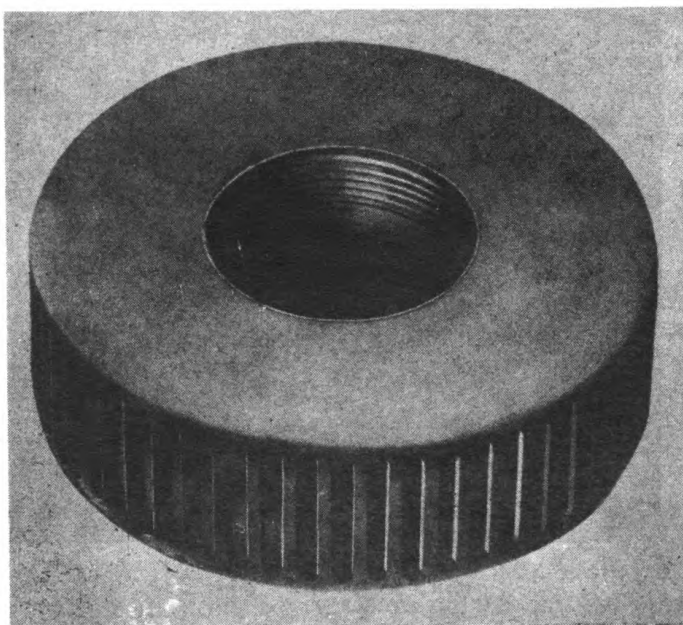

Figure 5. Suction strainer.
a. SET-UP OF PUMP. Set the pump as near to the source of liquid as possible, with a short, direct suction line attached to it. The suction lift has more effect on pump operation than the discharge head (distance water is forced above the pump). Attach the suction strainer to the end of the suction line. (See fig. 5.)